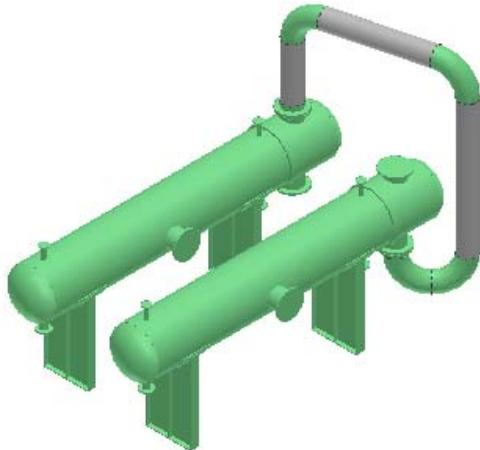

Figure 61: Selected Objects After Rotation
10. Key in **90 deg** in the **Angle** drop-down list on the **Rotate Object** ribbon. The selected objects will rotate in the graphic view, as shown in Figure 61.